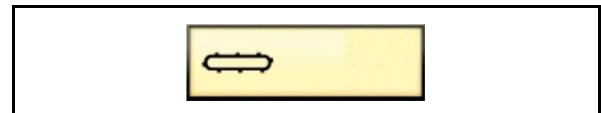

Fig. 144
- Set the rocker switch (1) back to neutral.
- The crossover conveyor stops. At the same time, the symbol "Crossover conveyor Stop" (Fig. 144) appears in the terminal.